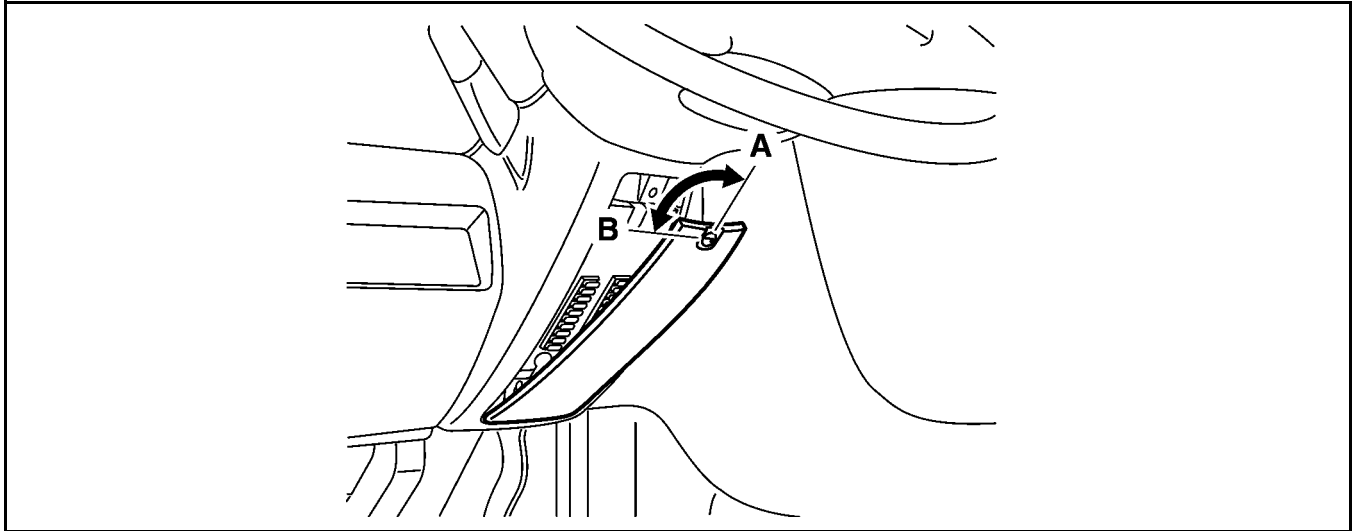

Figure 231 Removal of Fuse Panel Cover
2. Remove fuse panel cover (1) by turning slotted screw 90° from position A to B (Figure 231).